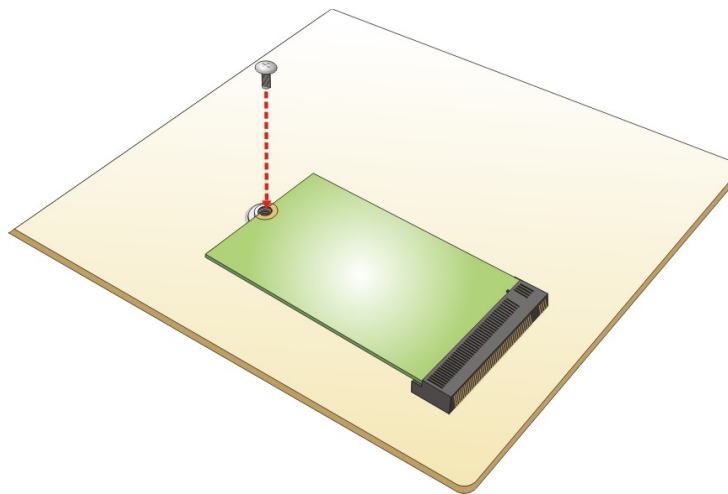

Figure 4-8: Securing the M.2 Module
Step 3: Secure the M.2 module with an M2*3 retention screw (**Figure 4-8**).